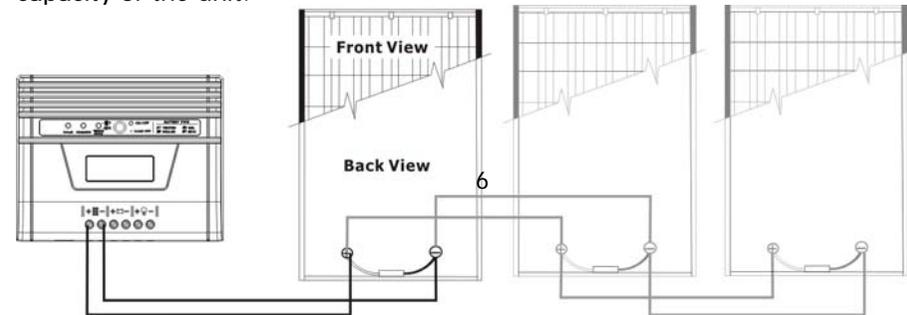

Fig. 5
2) Multiple solar modules in parallel connection (Refer to Fig. 5): Each module's voltage must not exceed the maximum solar module open circuit voltage. And, the sum of their solar power must not exceed the maximum capacity of the unit.